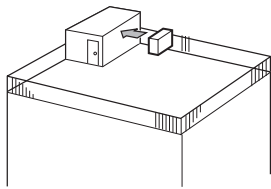

Fig. 2-2
- ① Face the air outlet towards the nearest available wall keeping about 50 cm distance. (Fig. 2-2)